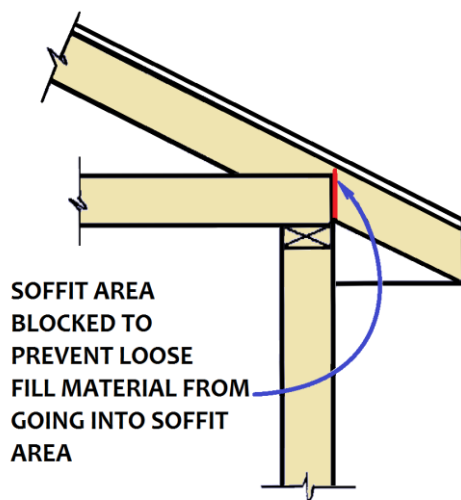

Figure 1A
- Where individual vents are used in the soffit, the rafter space immediately in front of and on either side of the vent should be provided with an air chute (See Figures 1A and 1B). Other spaces should be totally blocked.